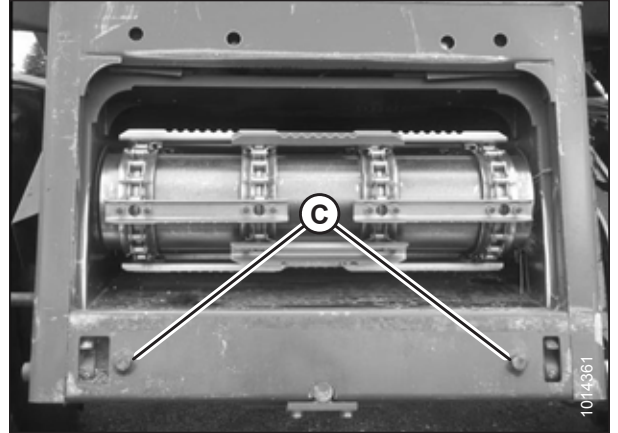

Figure 4.22: AGCO Group Alignment Pins
2. Start the engine and slowly approach the header until the feeder house is directly under the float module top cross member (A) and the alignment pins (C) (refer to Figure 4.22, page 359) on the feeder house are aligned with the holes (B) in the float module frame.